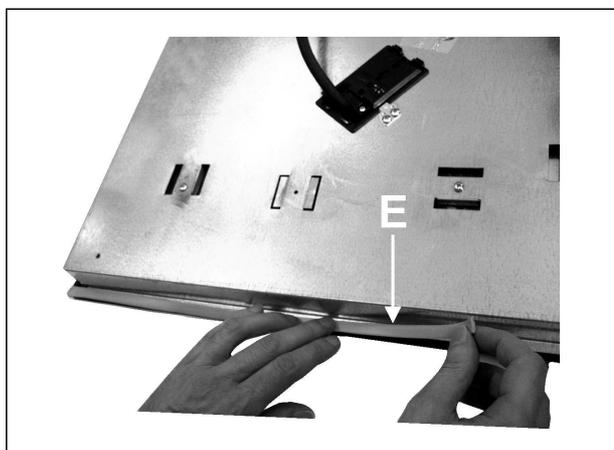

FIG. 5
- overturn the hob, correctly place the putty "E" (fig. 5) under the hob edge, so that the external side fits together with the external perimetric edge of the hob. The ends of the strip must fit together without overlapping.